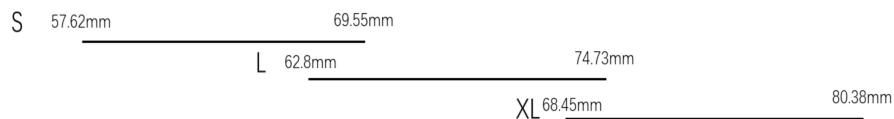

Figure 4
(1) The MegaRing C30 is offered in three sizes, based on the circumference of the your index finger (the distance around your index finger). The circumference of the index finger corresponds to the size of the three (3) available ring sizes as shown **Figure 4**: